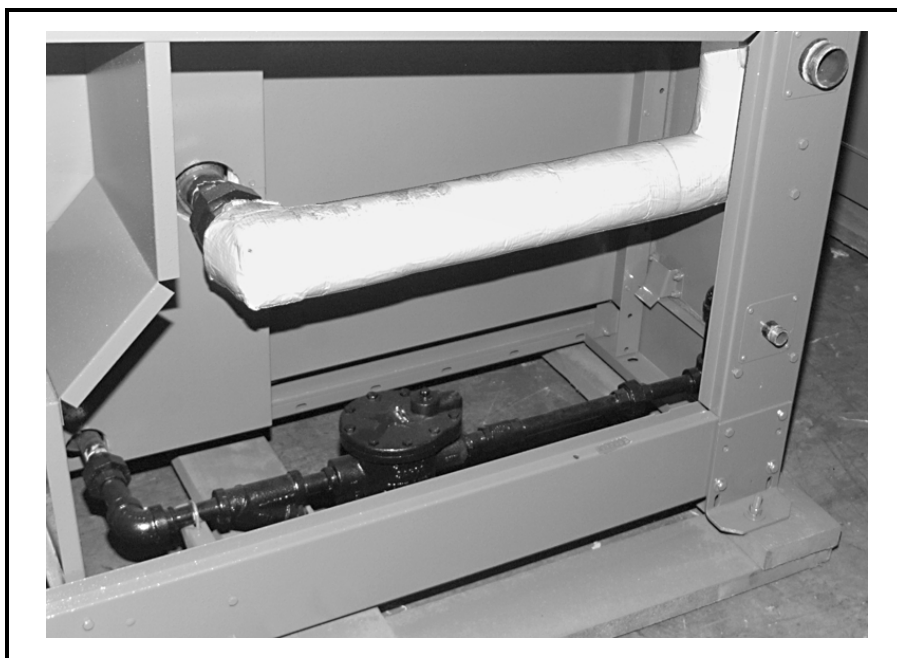

FIGURE 1 (MSSM0102BE)
1. Look at Figure 1, page 4. Turn the dial on **SPGL** counterclockwise to the lowest value.
1. Maintain the bypass piping (machines with optional ON/OFF valve, FIGURE 1) in good working order, to prevent cracking and popping sounds when steam is turned on. Do not operate Dryer unless bypass piping is in good working order.
1. Each Dryer has a strainer and steam trap (FIGURE 1), to handle steam that condenses in the coil as it heats the passing air which dries the goods.